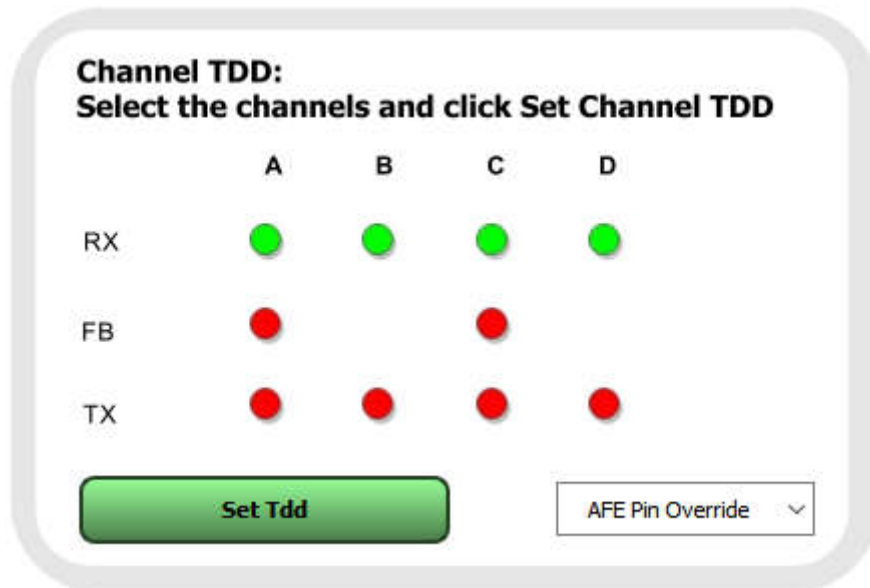

Figure 2-13. Enable RX TDD
1. Once the steps in "Initial bringup for all test cases" section are complete, navigate to the Channel-Controls tab in Latte and under the “Channel TDD” box, click the buttons for RX to turn them green and “Set Tdd”, as shown in Figure 2-13.